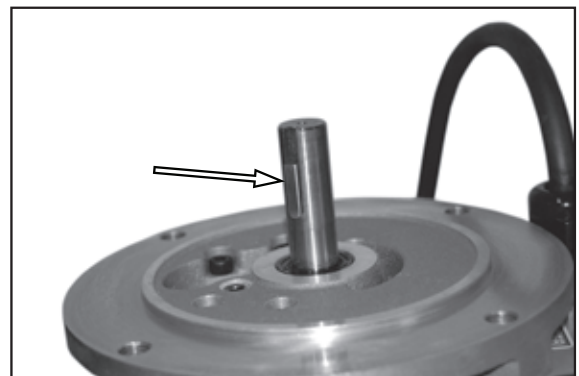

Figure 35.
2. See Figure 35. Remove the square key.